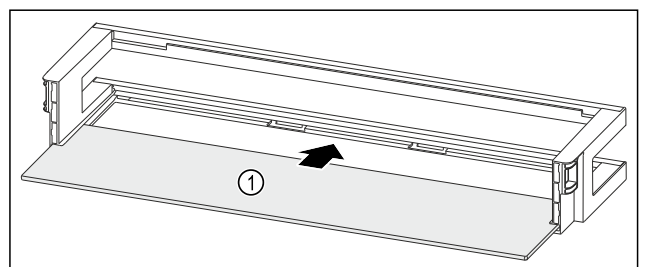

Fig. 95 Door rack with shelf
- ▶ Push the shelf Fig. 95 (1) into the side recesses.